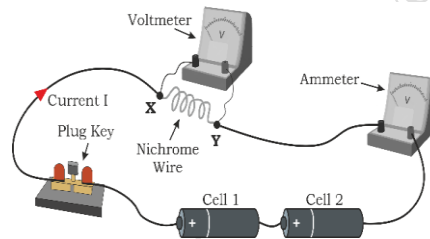

Fig. 2.19 Ohm's law setup
Step 3. Next, connect two cells in the circuit and note the respective readings of the ammeter and voltmeter for the values of current through the nichrome wire and potential difference across the nichrome wire. Figure 2.19 illustrates the practical setup of Ohm's law.